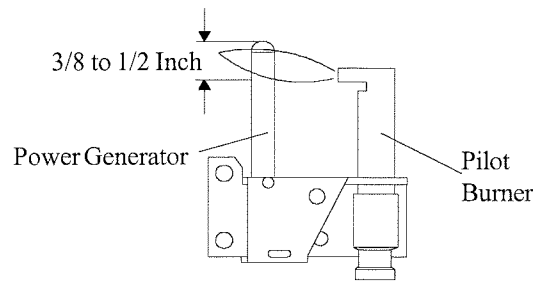

FIGURE 7. PILOT BURNER ADJUSTMENT
- Adjust pilot key to provide properly sized flame. See Figure 7 for properly sized flame.